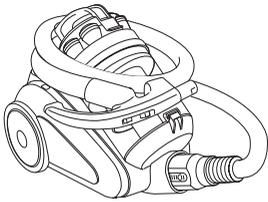

fig. 26
- 3 Detach the hose from the telescopic tube and wrap the hose loosely around the canister vacuum. (Fig. 26)